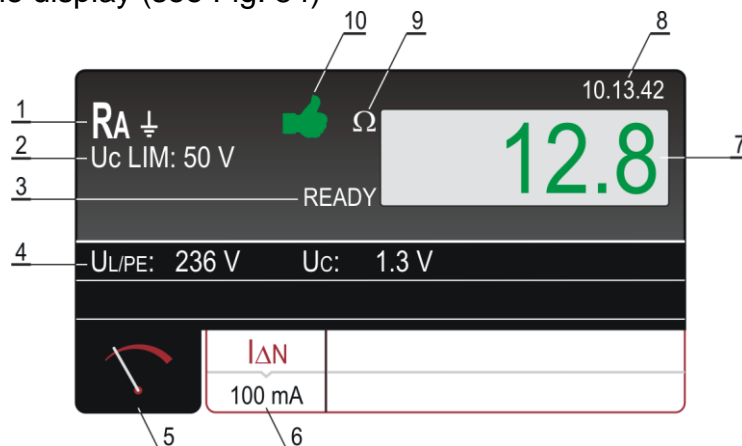

Fig. 54 : Visualization of RA test result
6. Press the **START/STOP** key to perform the measurement. The test result is shown on the display (see Fig. 54)